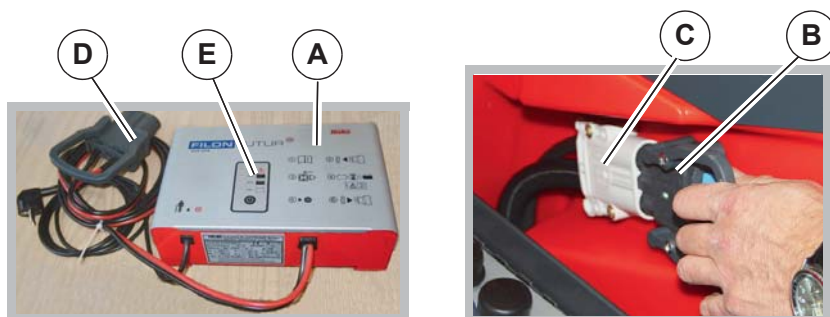

Fig. 26:
Charge the batteries with a stationary charger as, for example, shown in **Fig. 26-A**. The batteries can be charged if the battery capacity is less than 60 %.
2. Disconnect the battery plug **Fig. 26-B** from the machine plug **Fig. 26-C**.
3. Connect the battery plug to the plug of the charger **Fig. 26-D**.
5. The progress of the charging process is displayed in the display **Fig. 26-E** of the charger. The charge control indicator in the MFD of the machine is not active during charging with the stationary charger!
- Disconnect the battery plug from the plug of the charger and reconnect it to the plug of the machine **Fig. 26-C**.